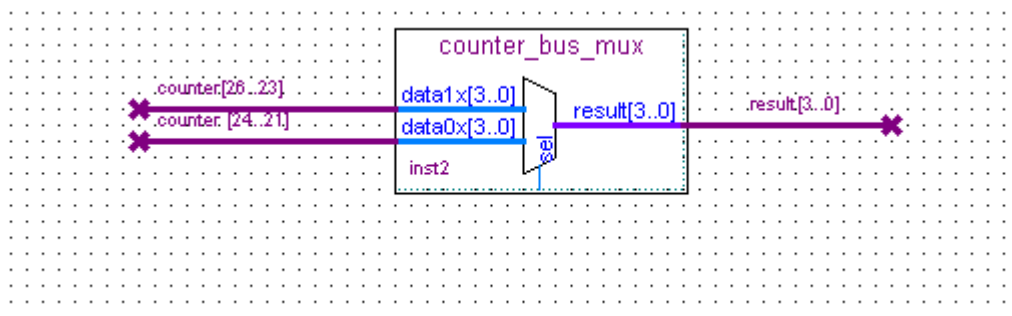

Figure 3-25 Renamed counter_bus_mux Bus Lines
- h. Click OK. **Figure 3-25** shows the renamed buses.